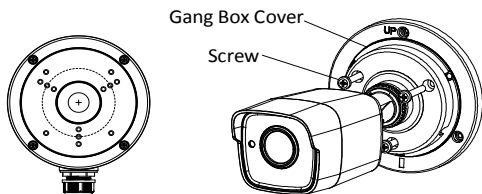

Figure 2-3 Fix the Camera with the Gang Box
2. Route the cables through the cable hole of gang box and fix the camera with the gang box cover with the supplied screws, as shown in Figure 2-3.